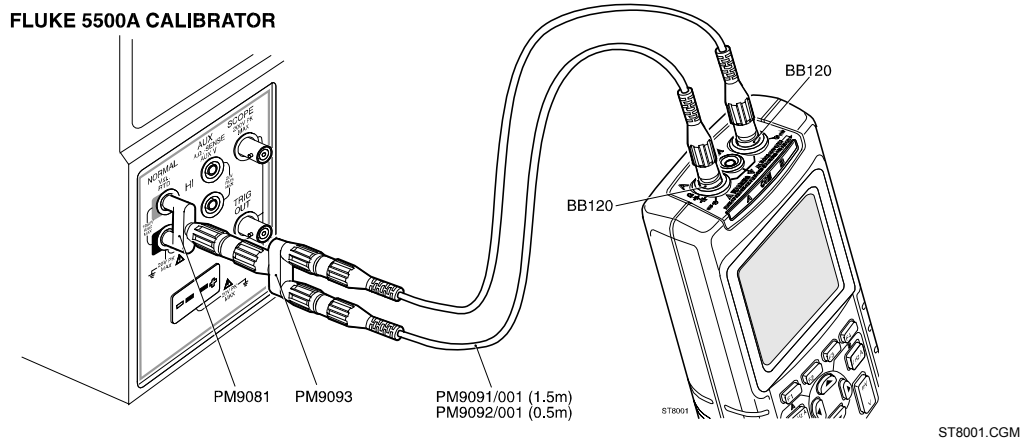

Figure 5-6. Volt Gain Calibration Input Connections <300V
2. Connect the test tool to the 5500A as shown in Figure 5-6.